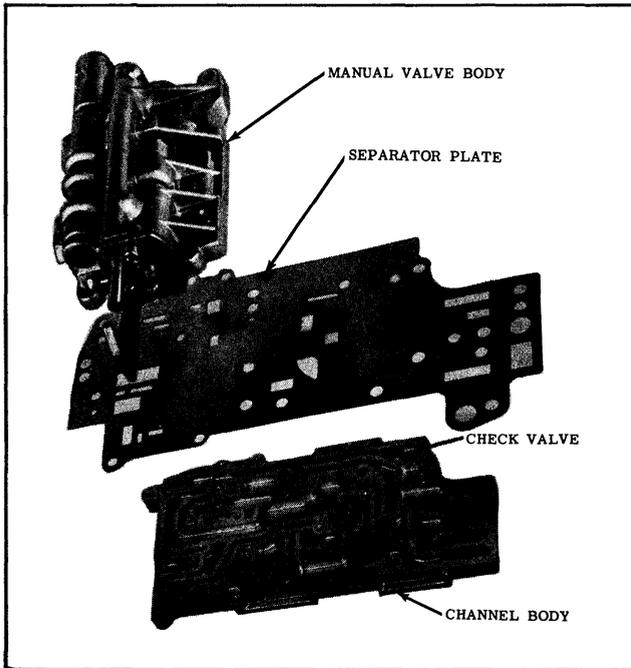

Fig. 3-125 Manual Valve Body Installation
1. Position the long separator plate on the check valve side of the channel body. (See Fig. 3-125)